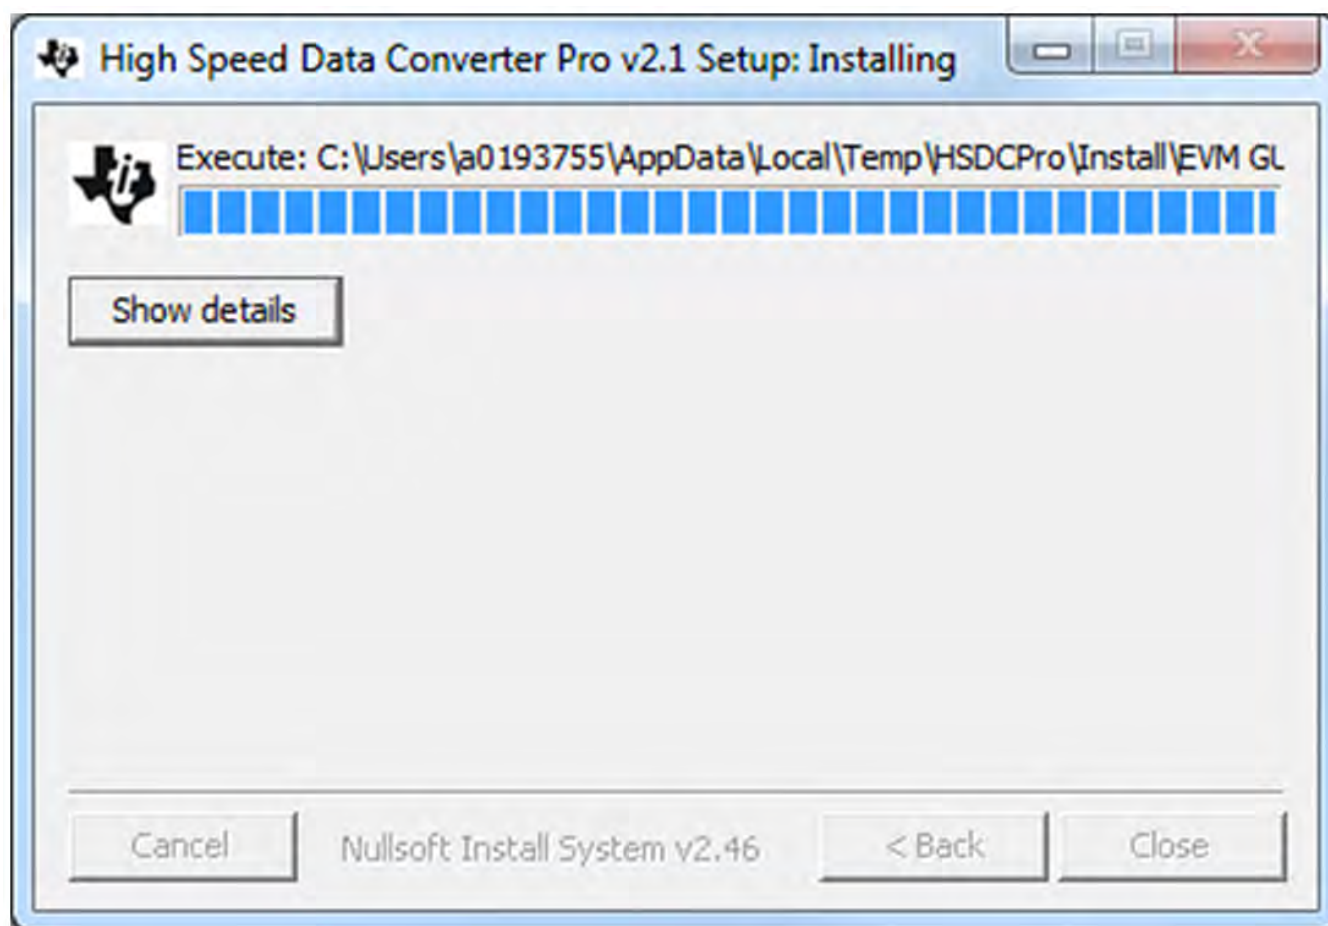

Figure 37. HSDCPro Install (h)
- The window shown in Figure 37 appears briefly to complete the process.